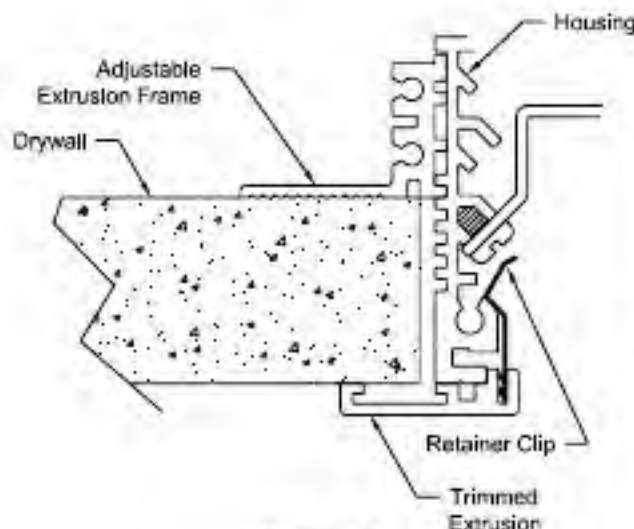

Figure 4
2. Carefully lift Corner Trimmed Extrusion at each end of Housing to release Retainer Clips (See Fig. 4).
2. Adjust elevation of Housing so that Adjustable Extrusion Frame (set to 5/8" thickness at factory) will sit on top of Installed Drywall and bottom of Housing walls match bottom of Drywall surface. See Fig. 4.
3. Install Drywall to edge of Housing. See Fig. 4.